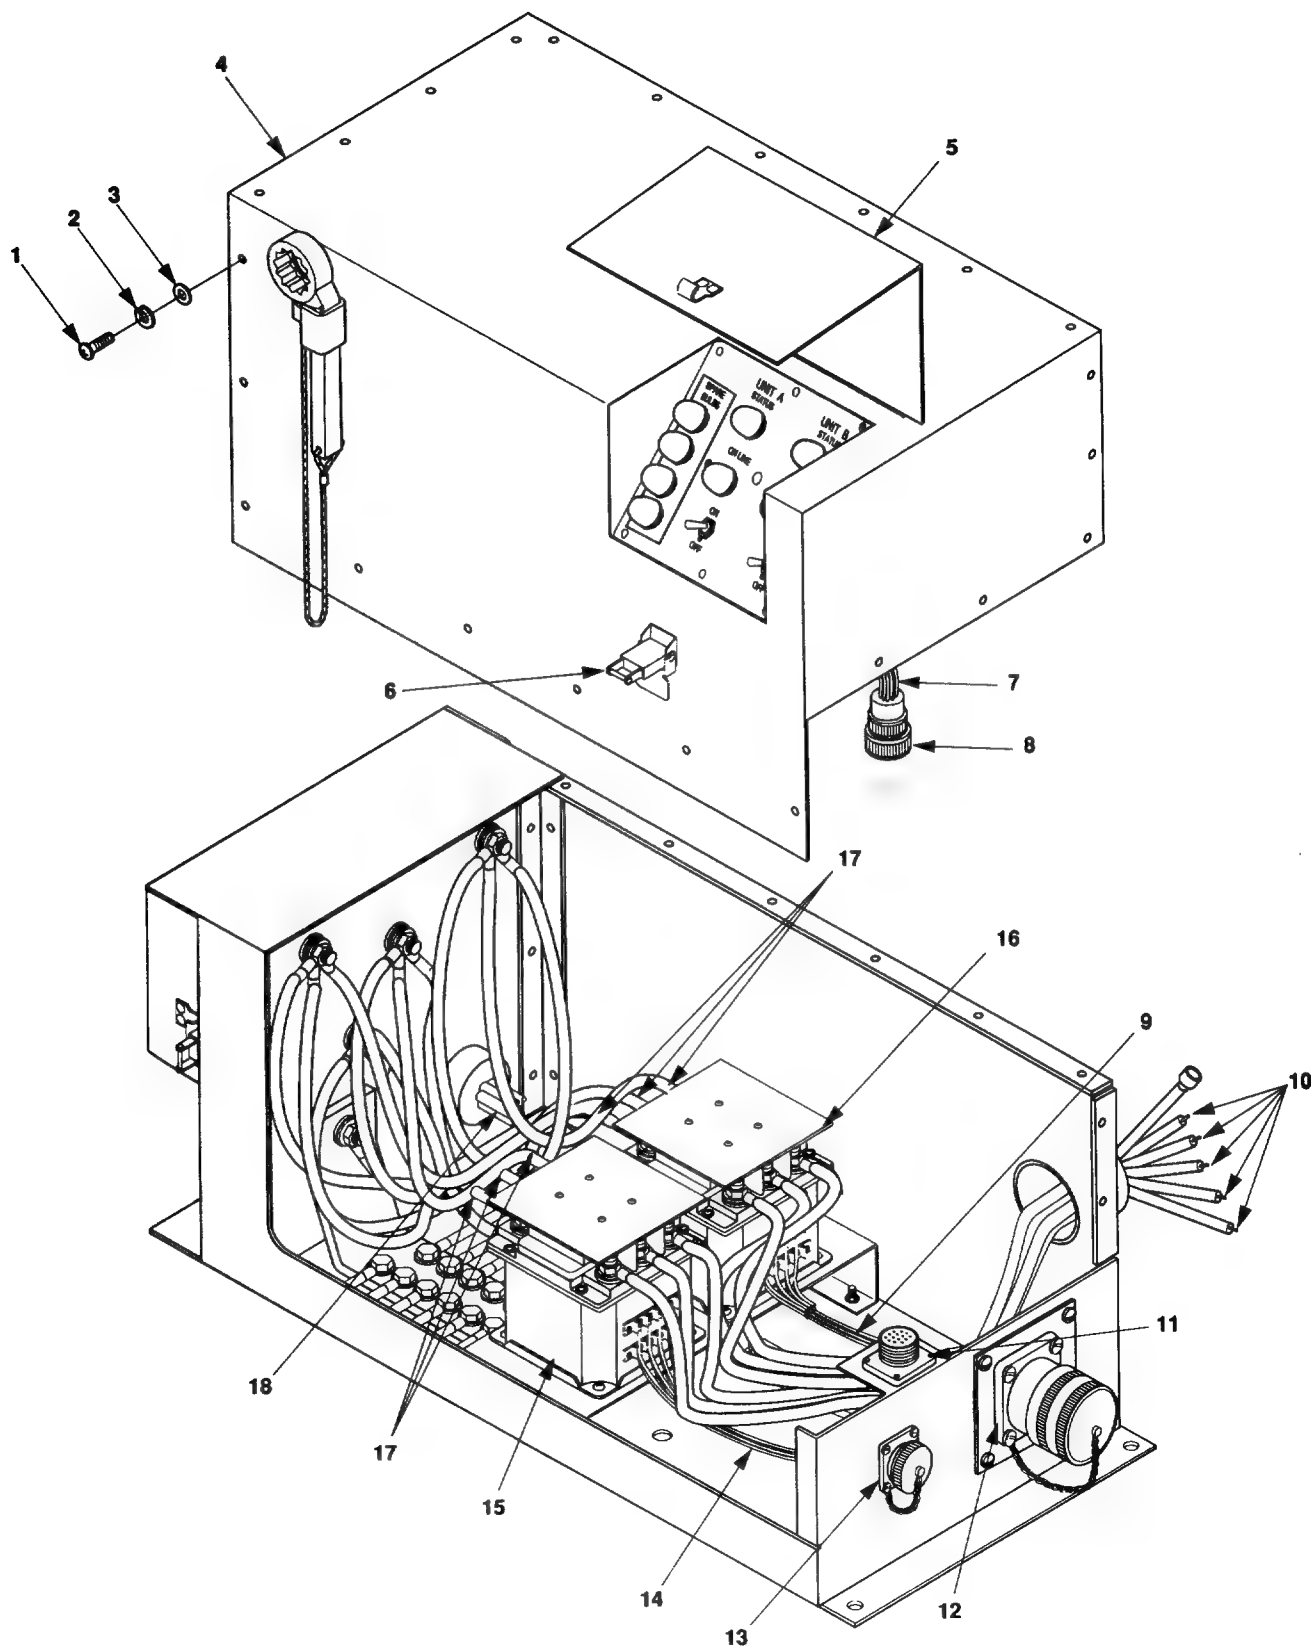

Figure 5-11. Switch Box Assembly Test.
- a. Remove 21 screws (1 **figure 5-11**), flat washers (3), and lock washers (2) that secure the switch box cover (4) to the switch box assembly.